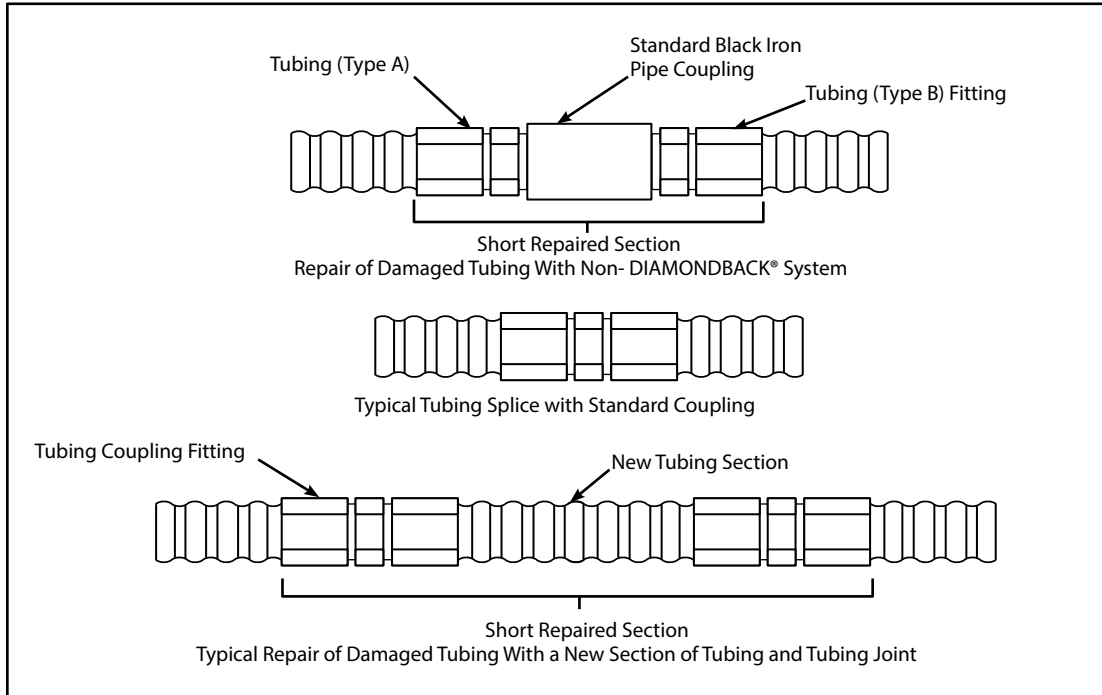

FIG. 5-1 Repair of Existing Tubing Runs
Damaged tubing runs shall be repaired in accordance with this design guide and installation instruction manual. The repair can result in a line splice (as shown in **FIG. 5-1**) which may be located in a concealed location.
1. Remove the section of tubing which is damaged and reconnect the new ends with a single mechanical coupling. Use this repair method if the damaged section is small and if there is enough slack tubing in the run to make-up for the removed damaged length. (FIG. 5-1)